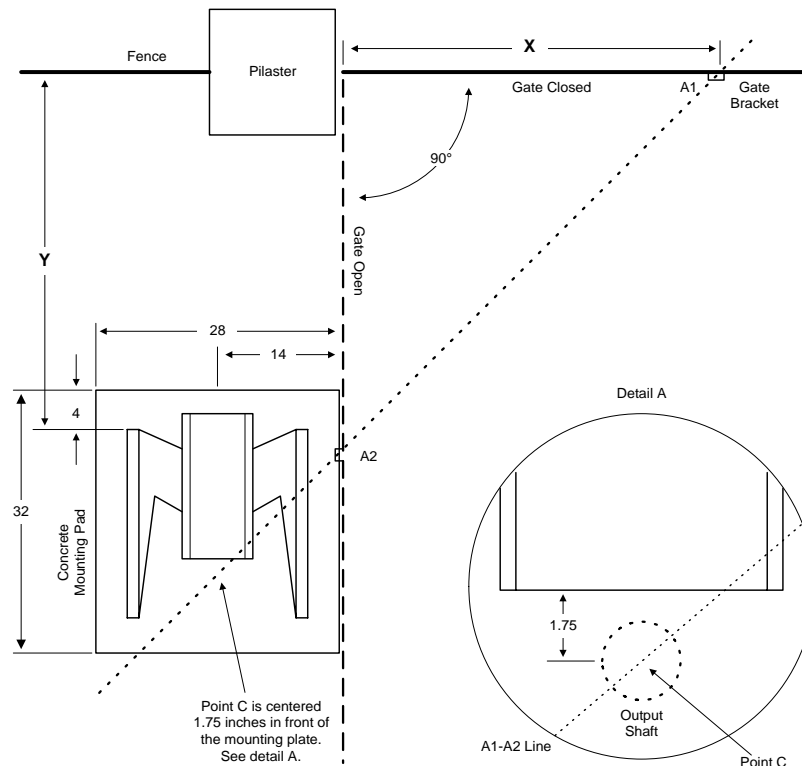

Figure 5
- Using Table 2 and Figure 5 determine the location of the concrete pad and mounting plate. The location of the pad and base plate and the **Y** measurement is dependent on the **X** measurement that you choose.
- Anchor the concrete mounting plate to the pad using eight (8) 3/8 x 3 sleeve anchors (not supplied). It is important that the concrete base plate is located correctly on the pad so that the A1-A2 line will intersect the operator output shaft as shown in Figure 5.